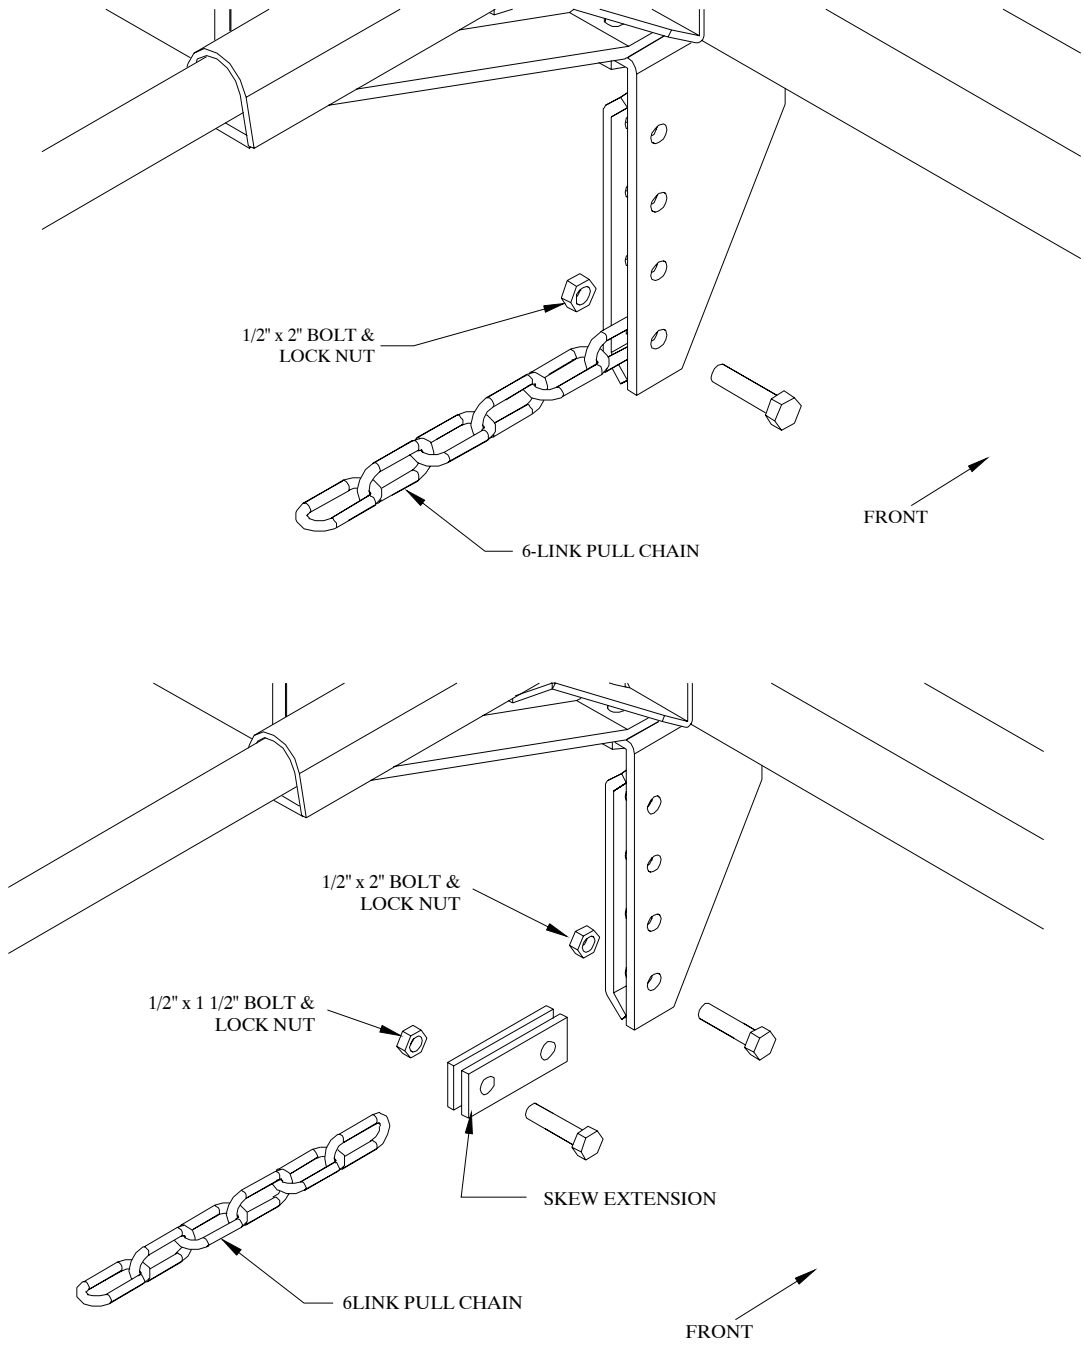

Figure 14
- 1) some pull points don't have an extension, shown in figure 14 on the next page, they are noted as "0" for their lengths
- 2) the extensions are in two pieces and come in different lengths and are shown in figure 14 on the next page.
2. Refer to pages 33-36 to determine which skew length is required for your particular harrow model. Use a 1/2" x 2" bolt and lock nut to bolt the skew extensions to the pull points as shown in figure 14. Don't over tighten the bolts, the skew extensions must move freely. If no extension is required at the pull point, skip it and go on to the next pull point.